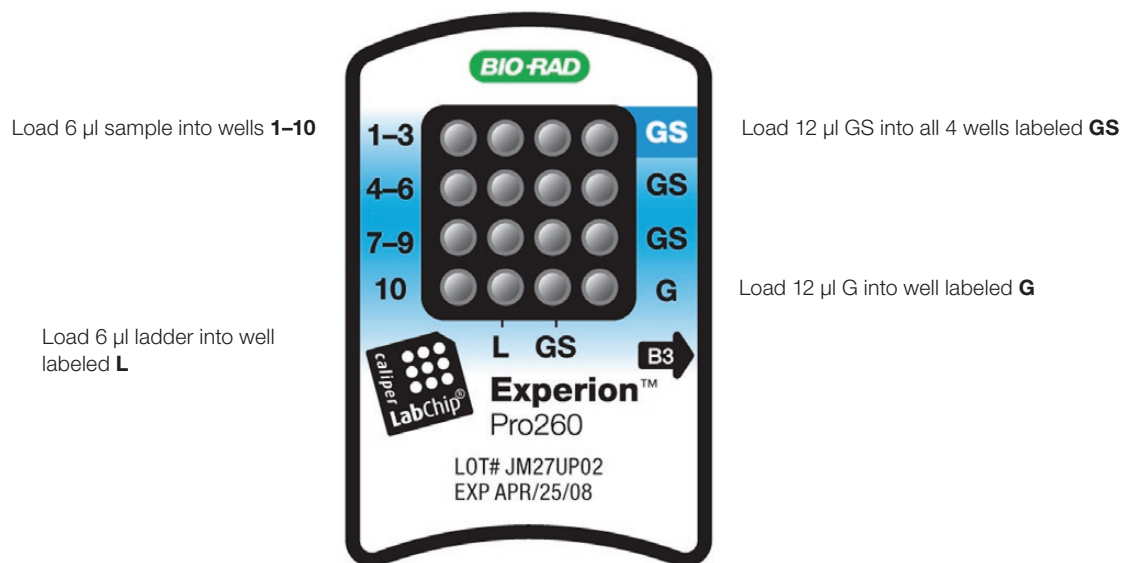

Fig. 3.2. Experion Pro260 chip. Wells for loading GS, G, samples, and ladder are indicated.
1. Using a pipet, remove and discard any remaining GS from the gel priming well. Pipet 12 μ l GS into all 4 wells labeled **GS** (including the gel priming well, Figure 3.2).
2. Pipet 12 μ l filtered gel (G) into the well labeled **G** (Figure 3.2).
4. Pipet 6 μ l diluted Pro260 ladder into the ladder well labeled **L** (Figure 3.2). Use the Pro260 ladder within 8 hr of preparation. Every chip must have Pro260 ladder loaded into the ladder well labeled **L**.